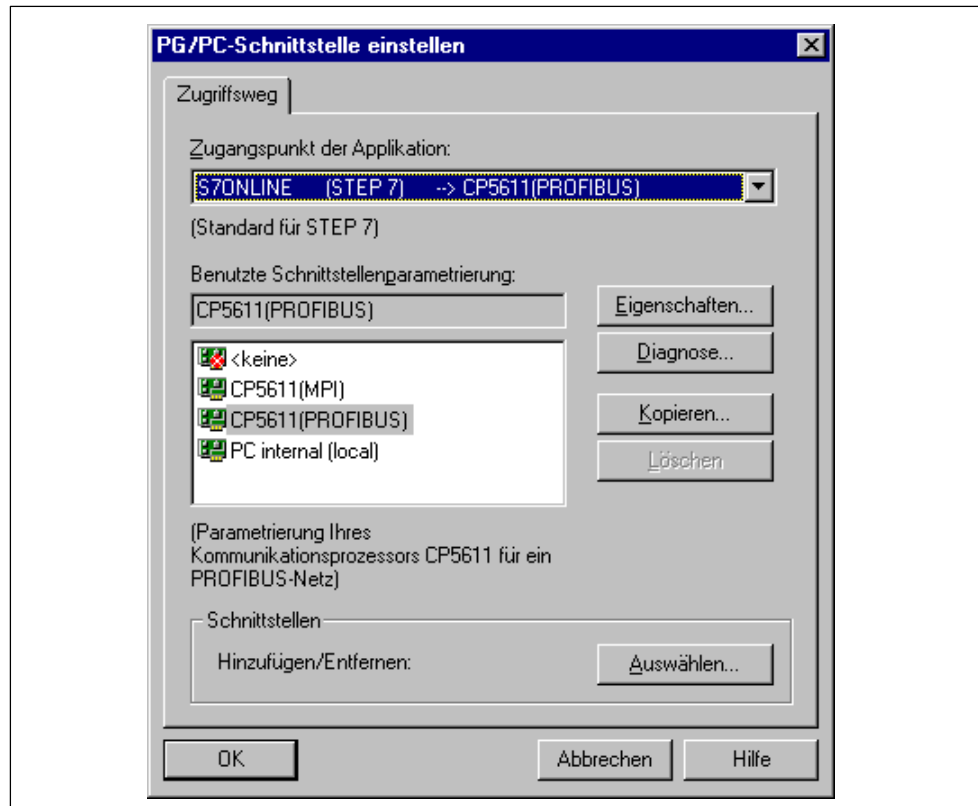

Figure 2-16 Setting the PG/PC Interface
1. Call the application for interface configuration from the control panel of the CPU 41x-2 PCI. To do this, choose the command (**CPU > Set PG/PC Interface**) (Figure 2-16).